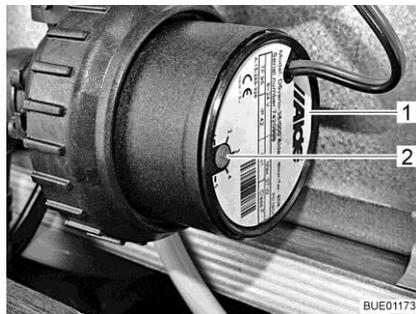

Fig. 225 Speed reduction
The rotational speed of the circulating pump can be set with the control knob (Fig. 225,2). At a lower rotary speed, the operating sounds of the pump are quieter.
The control knob is located on the circulating pump (Fig. 225,1).
- Turn the control knob (Fig. 225,2) in an anticlockwise direction. The output is reduced.